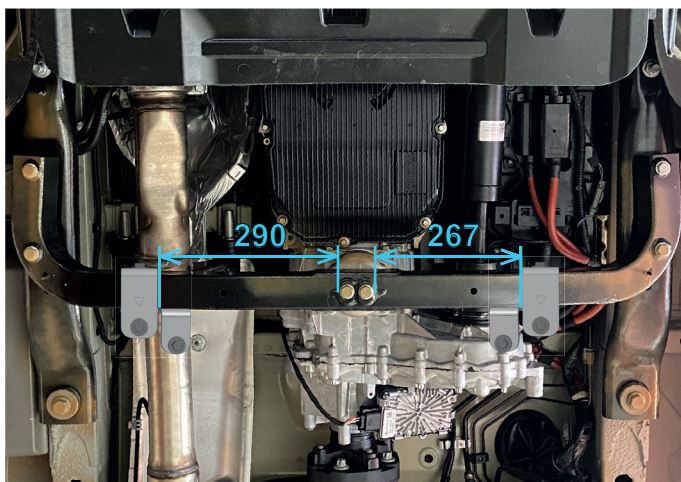

Fig. 3
2. Set the brackets to the distance, as shown in fig.3.